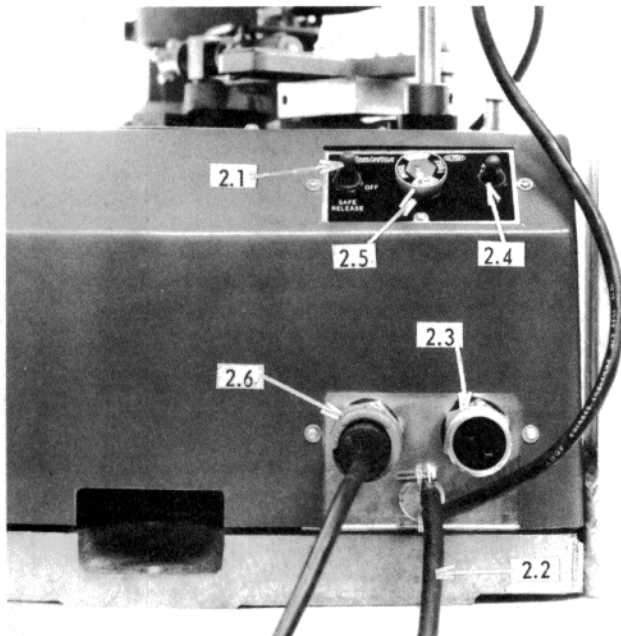

Figure 1 — Safety Switches and Operating Controls
2. The safety switches and operating controls are on the rear of the trap (see Figure 1) and include:
7. WHENEVER WORKING AROUND OR NEAR THE TRAP, DISARM THE REMOTE SWITCH BY UNPLUGGING THE CORD FROM THE TRAP. (see Figure 1, Page 1).